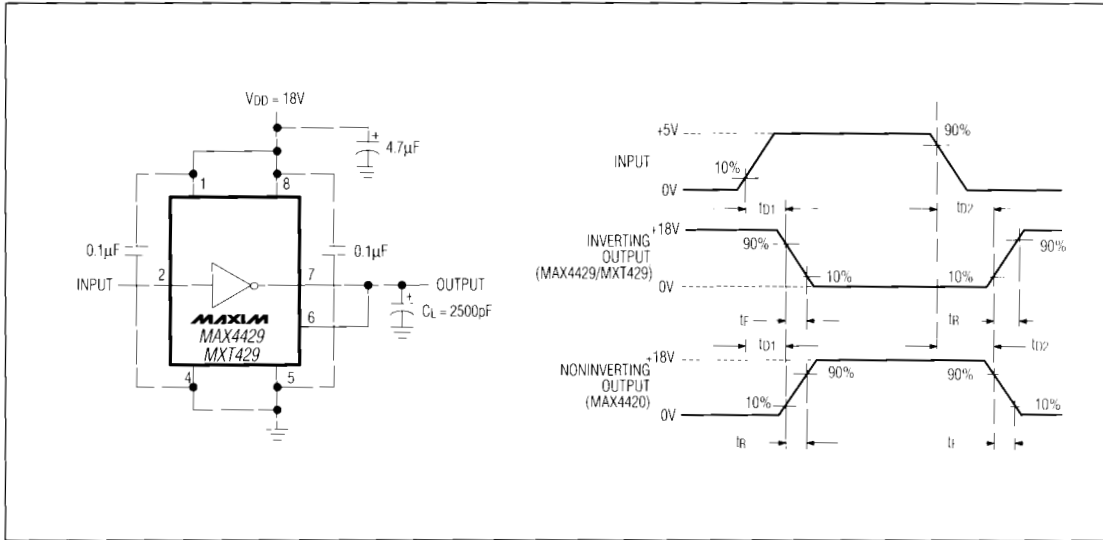

Figure 1. Switching-Time Measurement Circuit
| Rise Time (Note 1)    | $t_R$     | Figure 1  | $T_A = +25^\circ\text{C}$    | 25              | 30    |          | 25            | 35       |               | ns       |
| Fall Time (Note 1)    | $t_F$     | Figure 1  | $T_A = +25^\circ\text{C}$    | 25              | 30    |          | 25            | 35       |               | ns       |
| Delay Time (Note 1)   | $t_{D1}$  | Figure 1  | $T_A = +25^\circ\text{C}$    | 35              | 60    |          | 35            | 75       |               | ns       |
|                       | $t_{D2}$  | Figure 1  | $T_A = +25^\circ\text{C}$    | 40              | 60    |          | 40            | 75       |               |          |
**Note 1:** Switching times guaranteed by design, not tested. See Figure 1 for timing measurement circuit,  $V_{DD} = 18\text{V}$ .